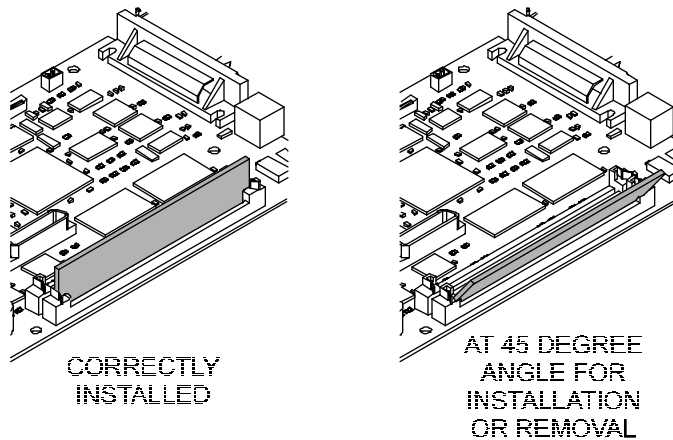

Figure 5-5. Extra Memory (SIMM) Installation/Removal.
2. The SIMM slots are at a 90° angle from the main circuit board. Facing the top of the SIMM, push the side clips gently to the outside (away from the SIMM) then push the top of the SIMM module towards the left side of the printer until the SIMM becomes free of the side clips. Lift up and pull the SIMM out, being careful not to damage the fingers on the top. See Figure 5-5.
1. The SIMM slots are at a 90° angle from the board. Place the SIMM at a 45° into the connector as shown in Figure 5-5.